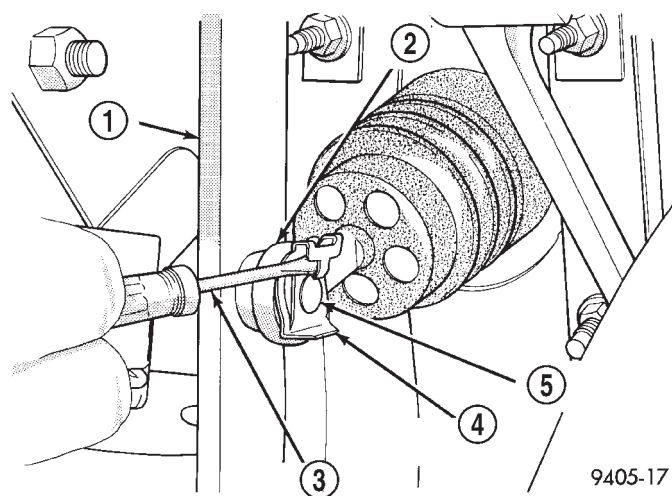

Fig. 74 Input Rod Retaining Pin
(15) Remove the vacuum hoses from the check valve located on the power brake vacuum booster.
(16) Locate the power brake vacuum booster input rod to brake pedal attachment under instrument panel. Position a small screwdriver between the center tang on the power brake booster input rod to brake pedal pin retaining clip (Fig. 74). Rotate screwdriver enough to allow retaining clip center tang to pass over end of brake pedal pin. Then pull retaining clip off brake pedal pin. **Discard retaining clip. Replace only with a new retaining clip when assembled.**